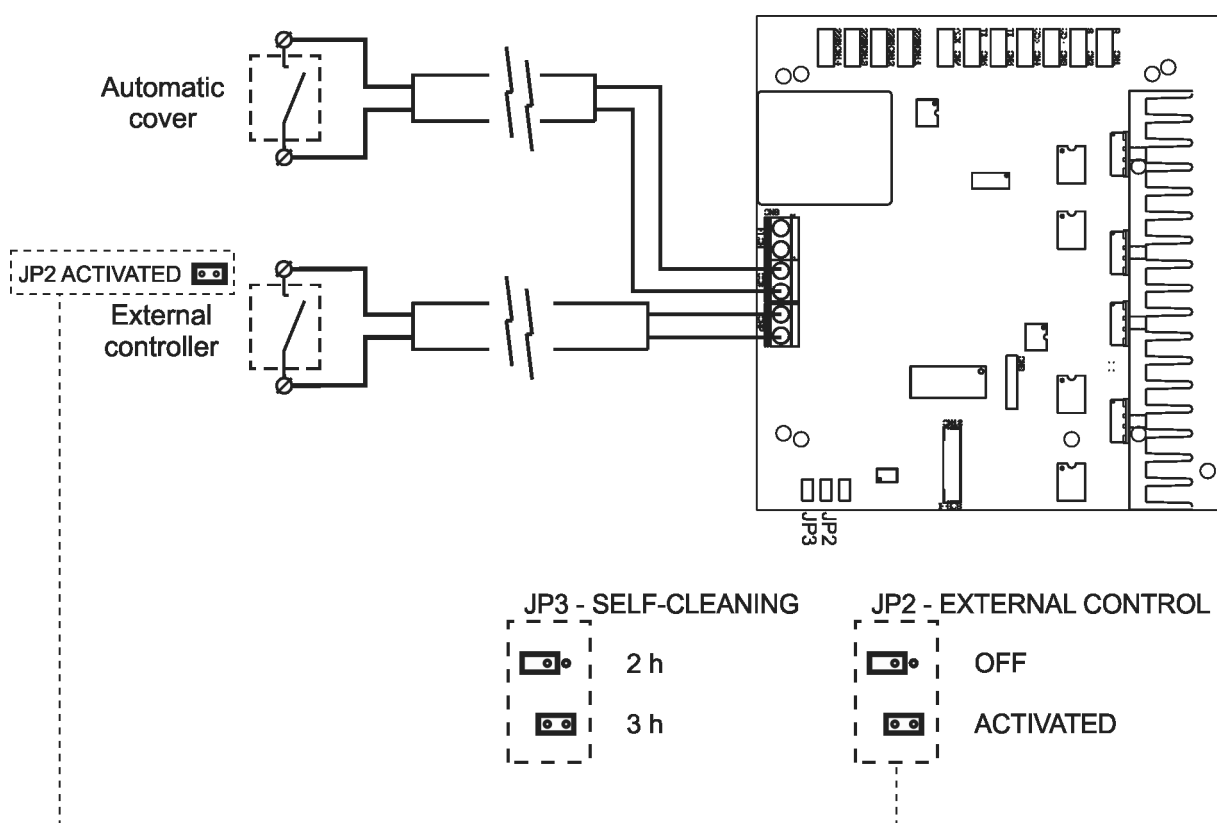

Fig. 16
- **ELECTRODE SELF-CLEANING System:** the leds [5] indicate electrode polarisation status (direct/reverse). The reversal frequency can be selected by means of jumper "JP3" on the system control panel (Fig. 16). This configuration will become effective by disconnecting and connecting again the equipment.